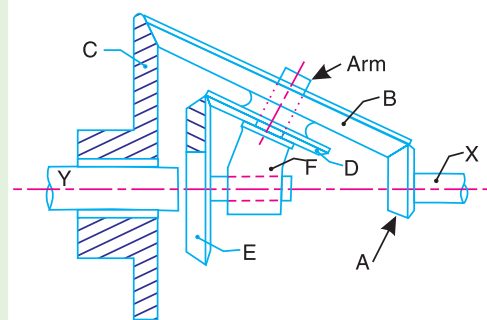

Fig. 13.31
**Example 13.24.** An epicyclic bevel gear train (known as Humpage's reduction gear) is shown in Fig. 13.31. It consists of a fixed wheel C, the driving shaft X and the driven shaft Y. The compound wheel B-D can revolve on a spindle F which can turn freely about the axis X and Y.